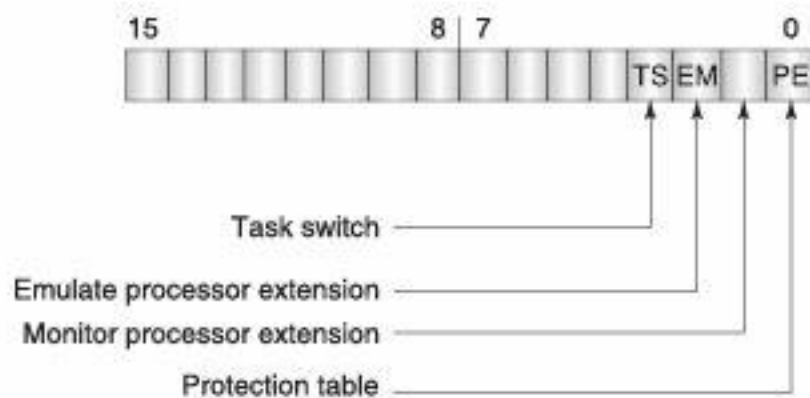

Fig. 7.17 Protected Virtual Address Mode PVAM.
The Figure 7.17 represents the format for the MSW. The MSW is a 16-bit register. The bit 0 is the protection enable (PE) bit. Bits 1, 2 and 3 indicate whether a processor extension (such as coprocessor) is present or not. The bits are changed in the machine status word (MSW) by loading the desired word in a register or memory location and executing the Load Machine Status Word (LMSW) instruction. Once the PVAM is entered by executing the LMSW instruction, resetting the system can only get it back to the real address mode. This processor is so designed that a programmer should not switch the system back into real address mode to defeat the protection scheme in PVAM.